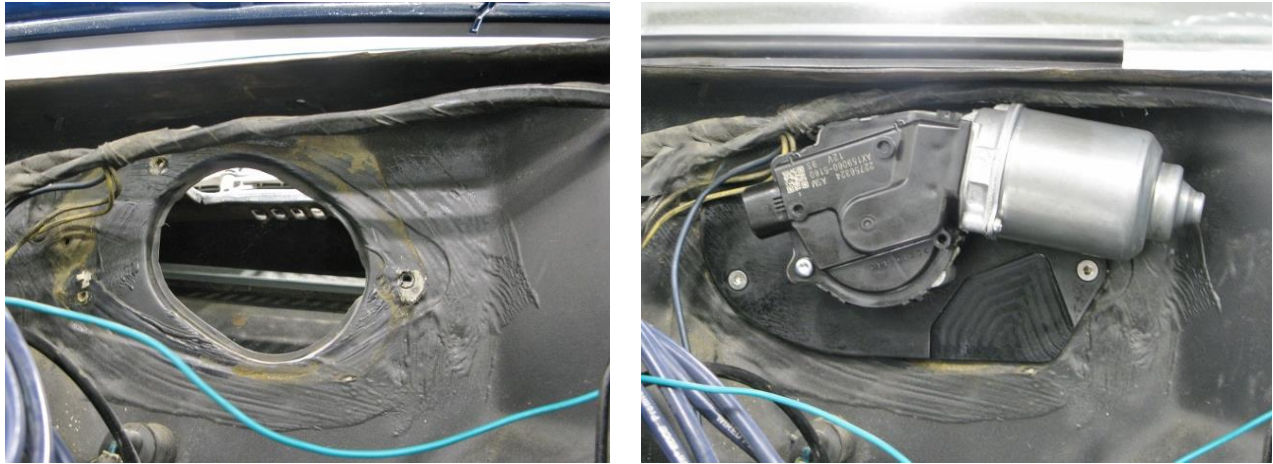

Figure 2 - Wiper Motor Orientation
4. Mount the new wiper assembly to the firewall with the three supplied 10-24 x 3/4" L stainless steel allen screws. The adapter plate will mount to the firewall using the original wiper motor weld nuts in the firewall (Figure 2 on the next page). Do **NOT** attach the original wiper linkage to the new pitman arm at this time.